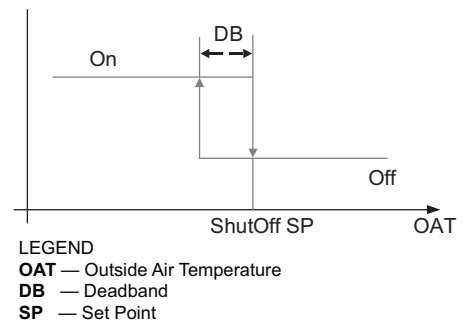

Fig. 69 — Hysteresis Settings
Hysteresis setting (DB) defaults to 2°F (–16.6°C). See Fig. 69.